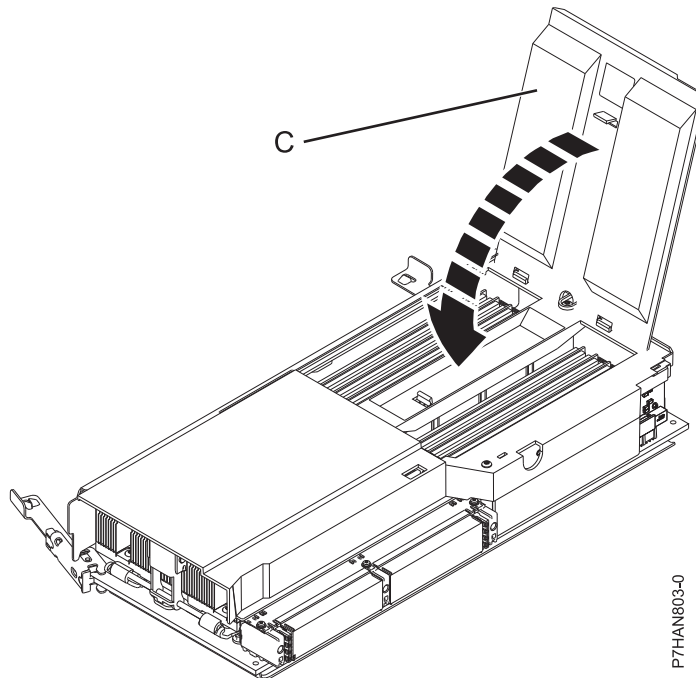

Figure 45. Closing the memory module cover
9. Close the memory module cover (C) until it locks in place, as shown in Figure 45.